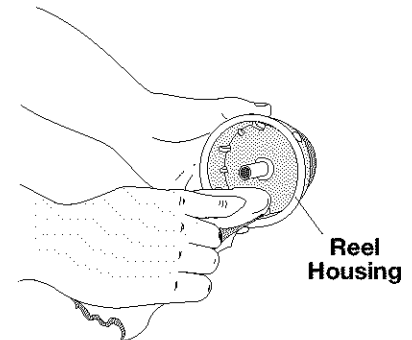

Fig. 21
3. Use a clean cloth to clean the inner surface of the reel housing (Fig. 21).